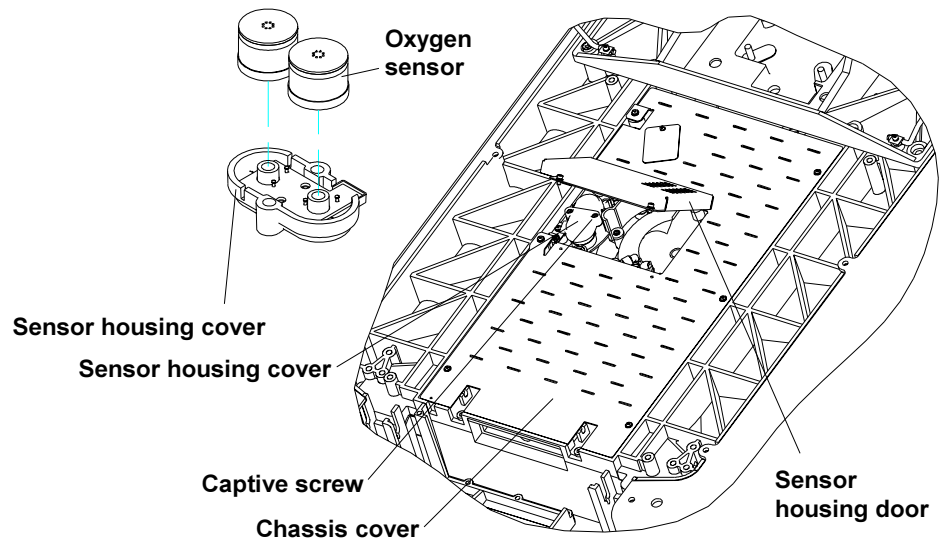

Figure 5-30
5.1141 Installing oxygen sensors (Figure 5-30)